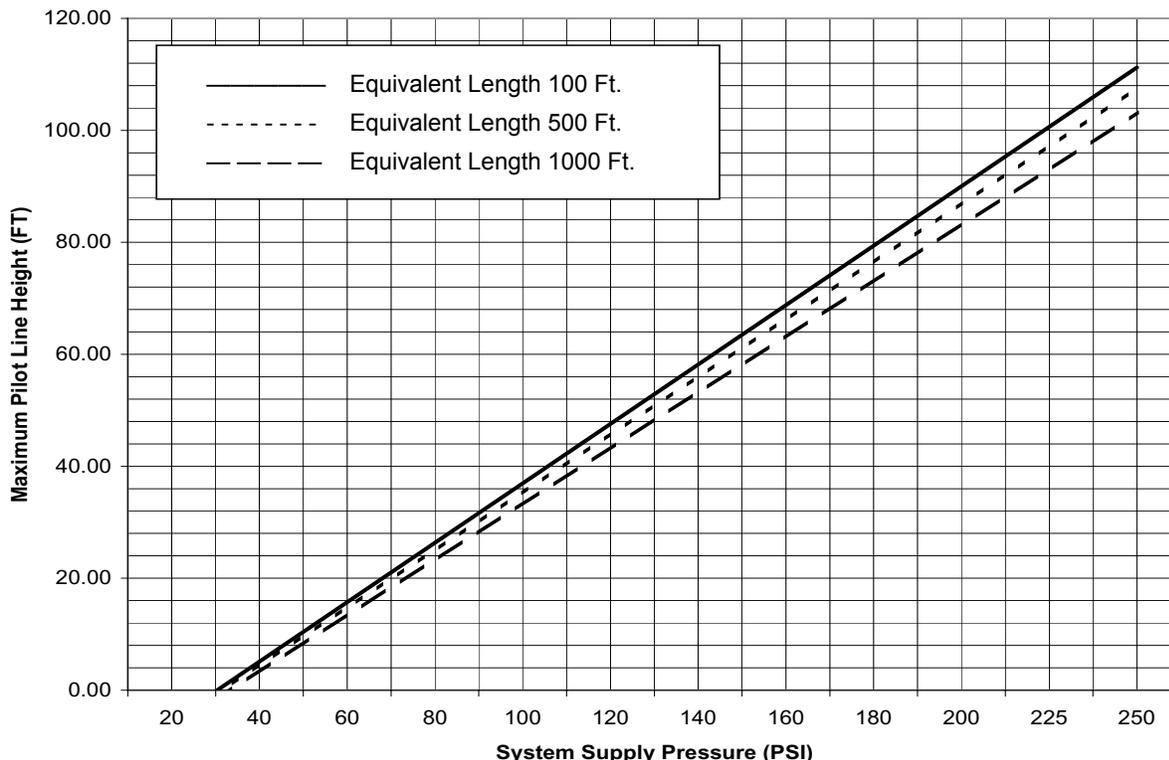

Figure 2: 1-1/2" & 2" Valves
- Compatible with Hydraulic (See Figure 2), Pneumatic, and/or Electric Detection Systems
- a. Hydraulic Release Systems: See Figure 2 for the maximum allowable elevation of hydraulic release piping above the Flow Control Valve. If the maximum height of hydraulic release piping exceeds the limit shown in Figure 2 for the valve used, use a Pneumatic or Electric Release System.